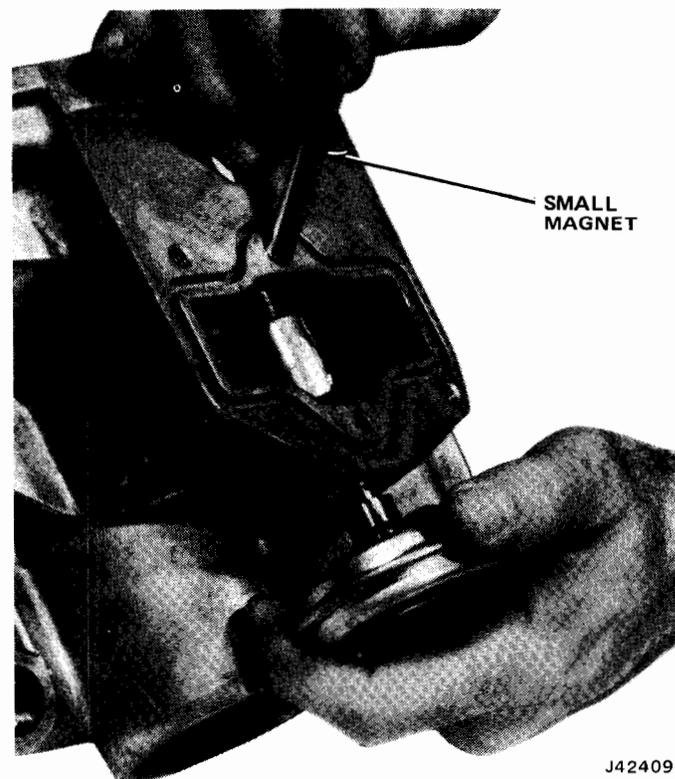

Fig. 8-55 Removing Diaphragm Control
- (4) Insert magnet into opening before removing diaphragm control (fig. 8-55).